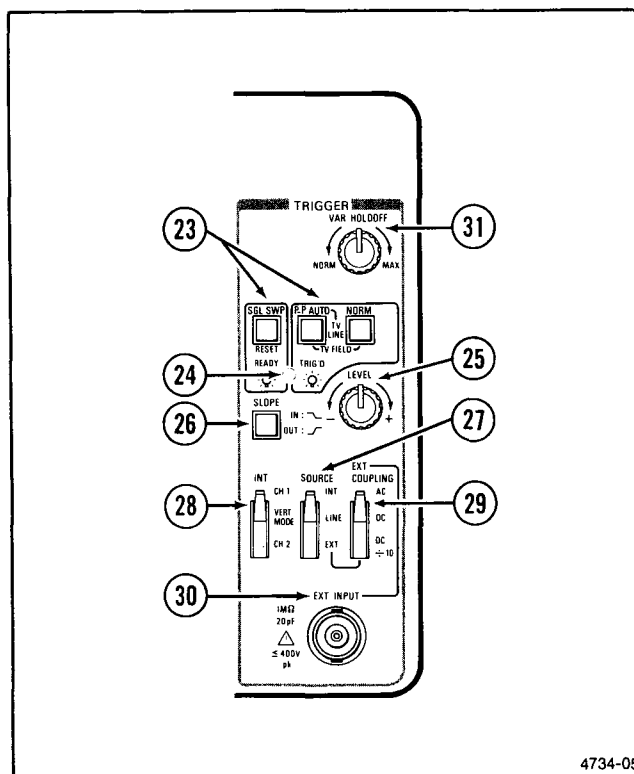

Figure 2-6. Trigger controls, connector, and Indicator.
Refer to Figure 2-6 for location of items 23 through 31.